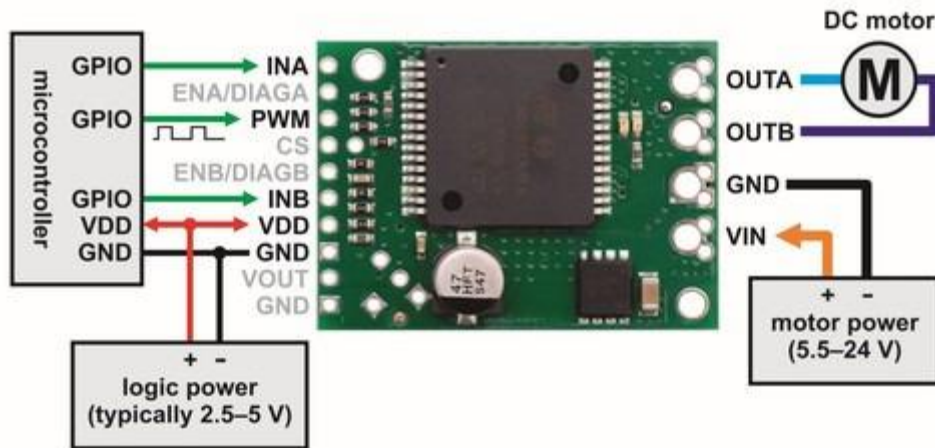

Figure 02: A Pololu motor driver and the connection diagram
- ❖ Understand the difference between a motor controller and a motor driver. An example motor driver that can be used to power the provided motors by Pololu is shown in the Figure 02. It is mandatory in robotic applications to compare and match the ratings of the motor and the motor driver. The connections shown in Figure 02 are fundamentally required to basic operations of the motor. However, depending on the motor driver of your choice, optional functionality may be available. For example, 'CS' in the Figure 02 stands for 'current sensing' and can provide a feedback to the microcontroller regarding the instantaneous motor current drawn by the motor.